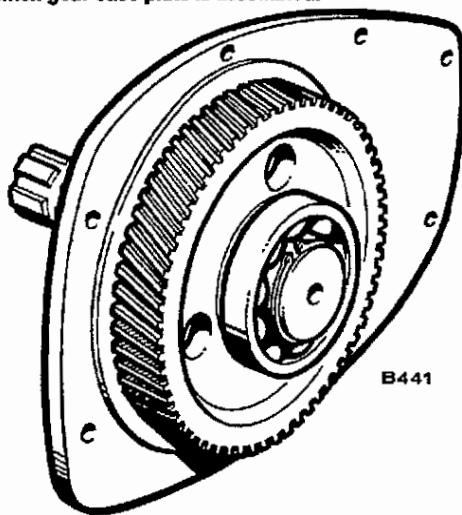

FIGURE 49. GEAR CASE PLATE REMOVED
3. Remove six 5/16 x 1-inch cap screws and two 5/16 - 1-1/4-inch cap screws and gear case plate, Figure 49.